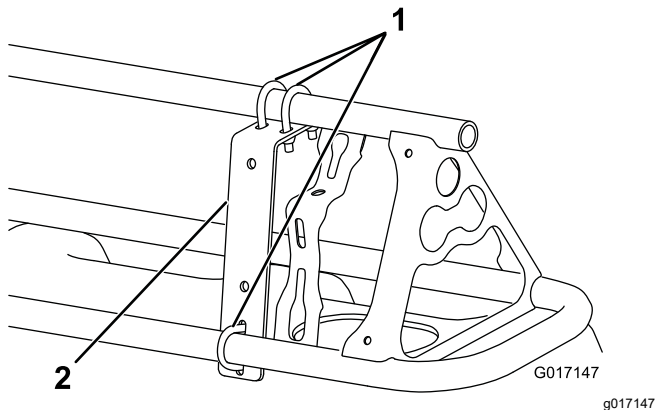
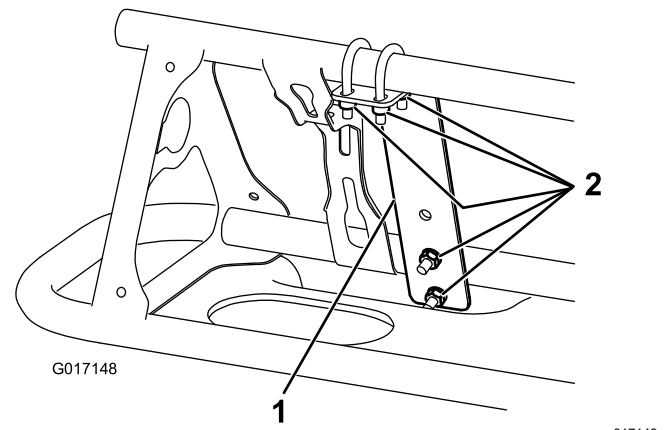

Figure 14
Figure 15
1. Install a mounting bracket on the front side of each boom near the outermost nozzle (Figure 14 and Figure 15) with 3 U-bolts and 6 locknuts (1/4 inch) .